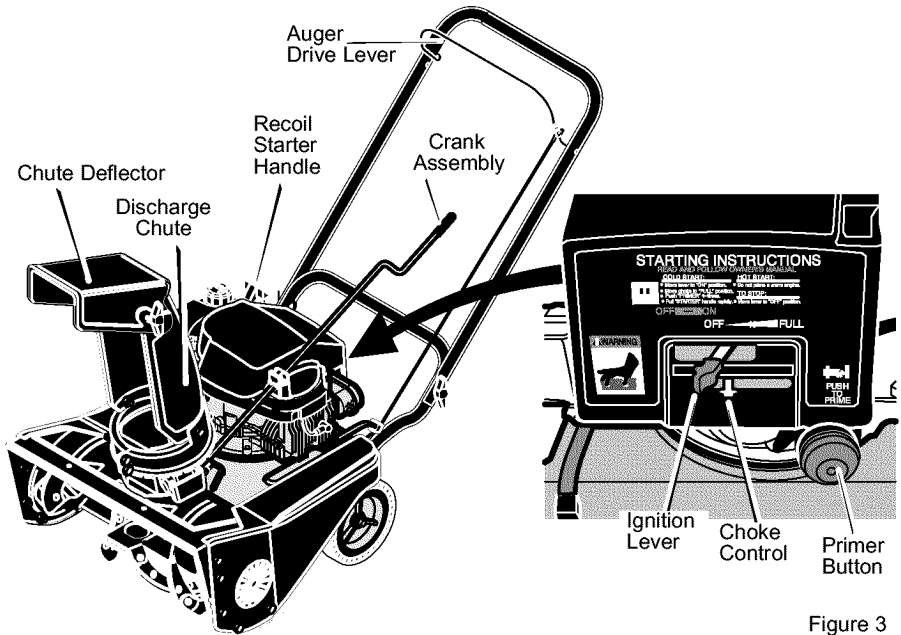

Figure 3
1. To stop throwing snow, release the **auger drive lever**. See Figure 3.